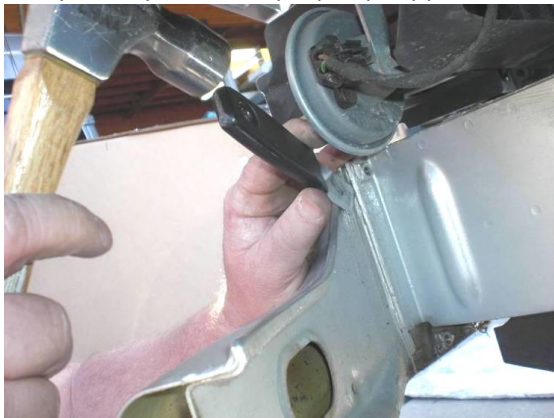

Figure 13: Releasing the Stock Steel Bumper from the Vehicle Using a Putty Knife and Hammer
15. Remove the stock steel bumper using a putty knife and a hammer if the bumper does not come loose after removing the bolts in the previous step. The frame sealant may cause the steel bumper to stick to the frame. See Figure 13. CAUTION: once the seal is broken, the bumper may fall if not properly supported.